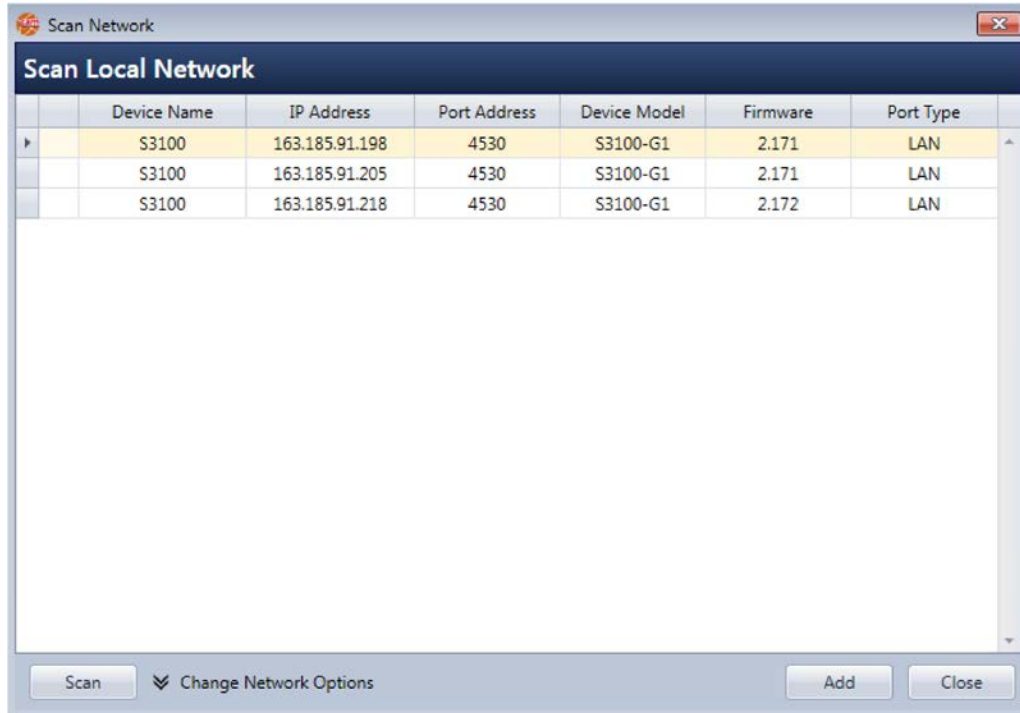

Figure 3.4—Scan Local Device dialog
3. From the *Scan Network* dialog (Figure 3.4), click in the box to the left of the device to which you want to connect and click **Add**. Repeat this step for each device to which you want to connect.